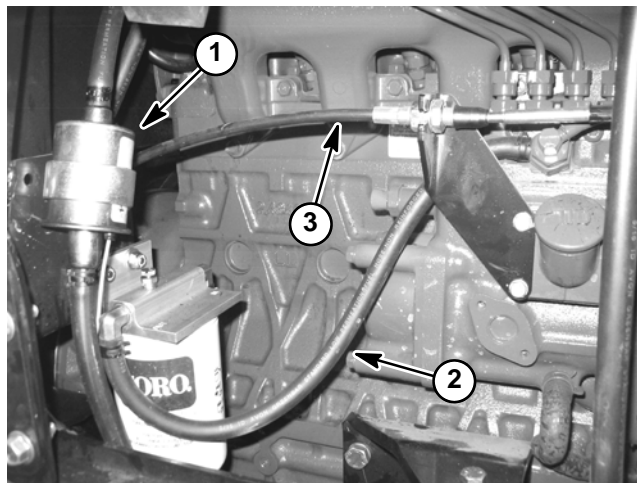

Figure 13
8. Disconnect fuel supply hose from injection pump (Fig. 13).
B. The engine run solenoid and fuel pump (Fig. 13).